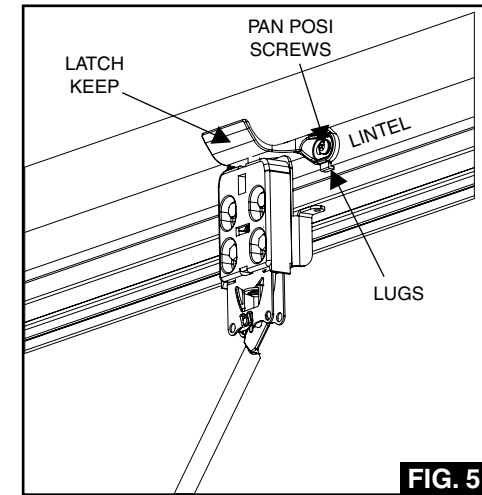

FIG. 5
- Remove the top catch plates/spring support brackets from the lintel (See Fig 5).
- 7b. Ensure the moulded lugs are aligned with the underside of the lintel (See Fig 5).